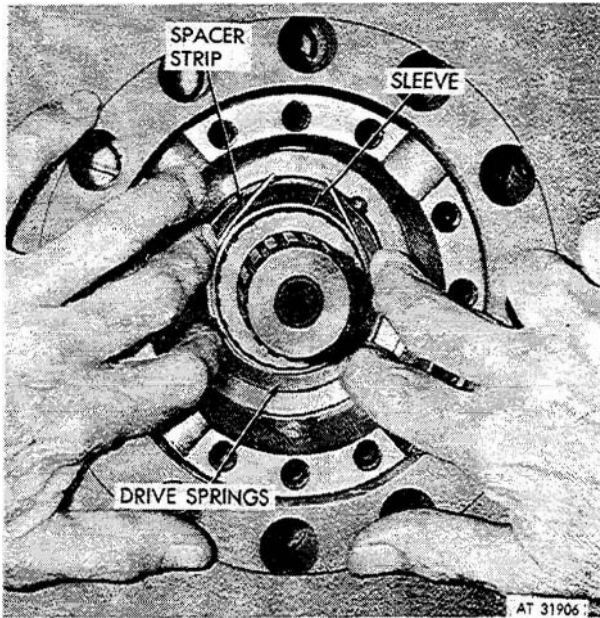

Figure 3-110. Installing spacer strip (11660104) between drive springs and sleeve (11660113).
(12) Position spacer strip (11660104) between last stack of drive spring (8, fig 3-99) and sleeve (5, fig 3-102) to center drive spring on sleeve (fig 3-110).